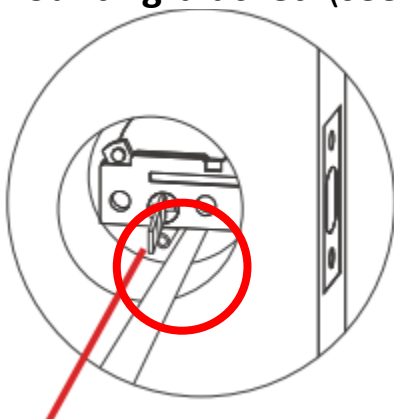
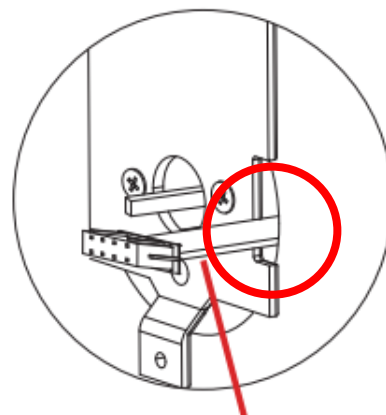

Figure C-3
Figure C-4
- d. The cable from the outside escutcheon should **go under the bolt**, (see Figure C-3) and should go through the slot at the **right side of the mounting bracket**. (see **Figure C-4**)